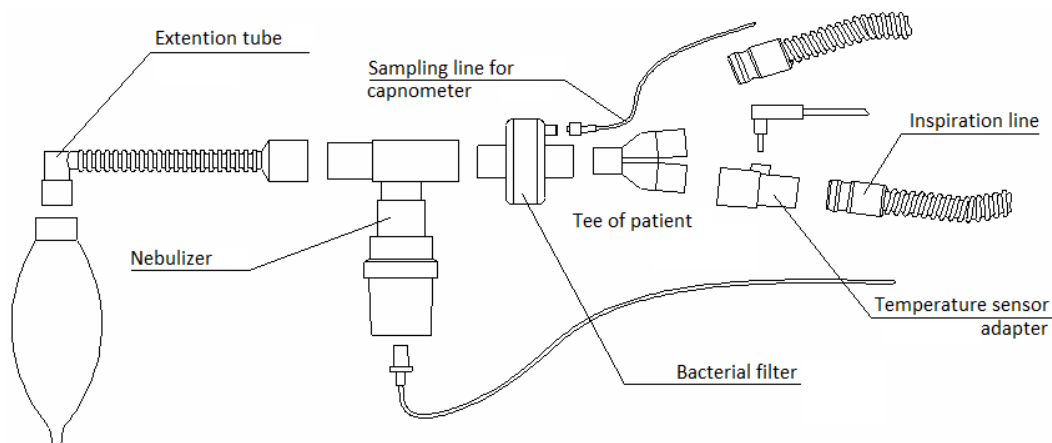

Figure 4.14 – One of the variants of connection of the nebulizer
- Connect the nebulizer to the breathing circuit as shown in Figure 4.14. Operating position of the nebulizer is below the breathing circuit.